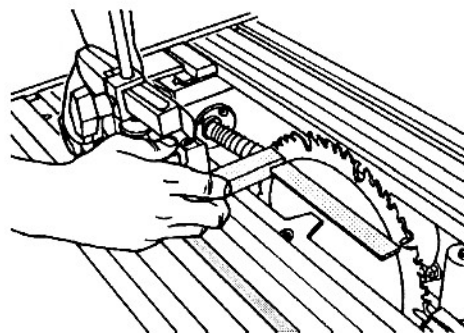

Fig. B-42
41. Place a precision square against the miter gauge and the just-aligned saw blade, as seen in Fig. B-42.